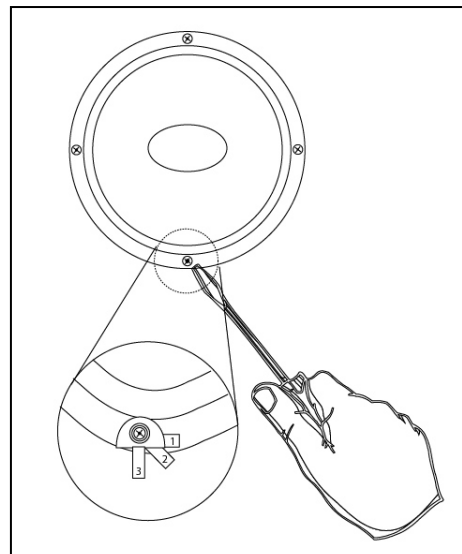

Figure 5
- 3 Use one hand to push the speaker into the cut out (again, pay careful attention **not** to push on the woofer's cone, this can cause permanent contortion of the voice coil, thus producing mechanical rubbing sound or speaker failure) and the other to turn the screws that engage the installation tabs (see **Figure 5**). Tighten the tabs in a cross or X-pattern until "snug". Be careful not to over tighten the tabs or damage could result. The speaker should appear flush to the surface.